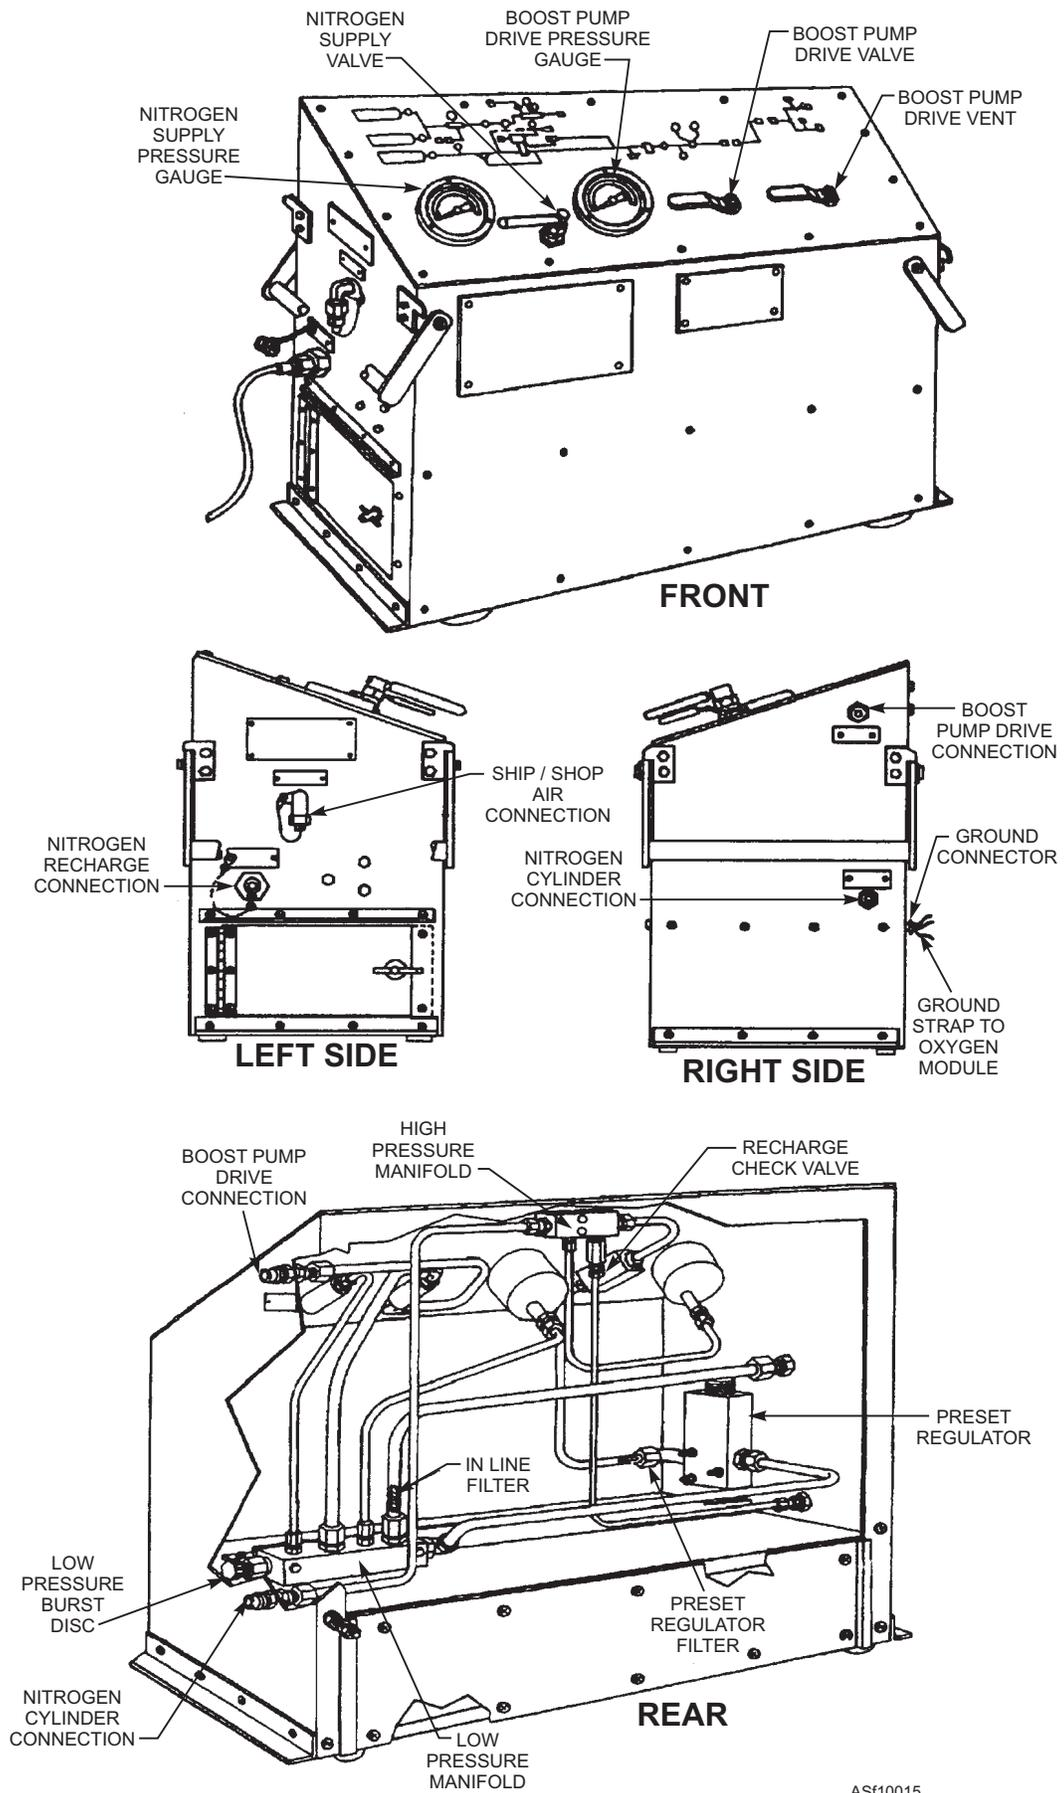

Figure 10-15.—Nitrogen module.
**NITROGEN MODULE.**—The nitrogen module, figure 10-15, supplies unregulated compressed air (90 to 150 psi) or regulated gaseous nitrogen to the oxygen module to drive the oxygen boost pump. Compressed air is the primary drive source for the boost pump. Gaseous nitrogen should only be used as a drive source for the boost pump when compressed air is not available. The following components are contained on or within the nitrogen module. (Refer to figure 10-15 to locate the components on the module, and to figure 10-13 to trace air/nitrogen flow.)
**High Pressure Manifold.**—The high-pressure manifold (5) provides a collecting point for the nitrogen gas after it leaves the cylinders (1), and it directs the gas to the nitrogen supply pressure gauge (6) and nitrogen supply valve (7). It is mounted underneath the top panel of the nitrogen module. (See figure 10-15, rear view.)
**Nitrogen Supply Pressure Gauge.**—The nitrogen supply pressure gauge (6) indicates the nitrogen pressure in the cylinders. It is located on the left corner of the nitrogen module panel. (See figure 10-15, front view.)
**Nitrogen Supply Valve.**—The nitrogen supply valve (7) is a lever-operated, two-way ball valve that controls the flow of the high-pressure nitrogen from the cylinders (1) through the filter (8) and preset regulator (9) to the low-pressure manifold (10). It is located on the top left corner of the nitrogen module panel. (See figure 10-15, front view.)
**Preset Regulator Filter.**—The preset regulator filter (8) is a 10-micron, replaceable element type that removes moisture and foreign matter from the nitrogen
before it enters the preset regulator. (See figure 10-15, rear view.)
**Preset Regulator.**—Located inside the nitrogen module rear cover, the preset regulator (9) reduces the pressure of the nitrogen coming from the cylinders and regulates the pressure at the oxygen boost pump inlet to 120 to 130 psi. (See figure 10-15, rear view.)
**Low-pressure Manifold.**—The low-pressure manifold (10) collects the compressed air from the ship/shop, or the low-pressure nitrogen from the preset regulator, and directs it to the boost pump drive pressure gauge (12), the boost pump drive valve (15), and the boost pump vent valve (16). (See figure 10-15, rear view.)
**Low-pressure Rupture Disc.**—The low-pressure burst disc (11) protects the pump in the event of excessive pressure. It prevents boost pump drive pressure from exceeding 240 psi. (See figure 10-15, rear view.)
**Boost Pump Drive Pressure Gauge.**—The boost pump drive pressure gauge (12) indicates the air or nitrogen pressure delivered to the oxygen boost pump. It is located on the nitrogen module panel to the right of the nitrogen supply valve. (See figure 10-15, front view.)
**Ship/Shop Air Inlet Connection.**—The ship/shop air inlet connection (13) provides a means of connecting an external compressed air source to the servicing unit for driving the boost pump. The air inlet connection is located on the left side of the nitrogen module (See figure 10-15, left side view.)
**Shop/Ship Air Inlet Filter.**—The inlet air filter (14) is a 10-micron, replaceable element filter (14) that removes moisture and foreign matter from the air before it enters the boost pump. (See figure 10-15, rear view.)
**Boost Pump Drive Valve.**—The boost pump drive valve (15) provides a positive means of controlling the air or nitrogen going to the boost pump (21). It is a two-position valve located to the right of the boost pump drive pressure gauge on the nitrogen module panel. (See figure 10-15, front view.)
**Boost Pump Drive Pressure Vent.**—The boost pump drive pressure vent (16) provides a means of venting boost pump drive pressure and nitrogen module gas line pressure. It is a two-position valve located on the upper right corner of the nitrogen module panel. (See figure 10-15, front view.)
**Nitrogen Recharge Connection.**—The nitrogen recharge connection (17) provides a means of refilling both nitrogen cylinders while they are still on the servicing unit. (See figure 10-15, left side view.)
**Nitrogen Recharge Check Valve.**—The nitrogen recharge check valve (18) prevents the reverse flow of nitrogen from the system during recharging, and it
prevents cylinder pressure from escaping when the cylinder valves are open. It is screwed into the high-pressure manifold underneath the nitrogen module panel. (See figure 10-15, rear view.)